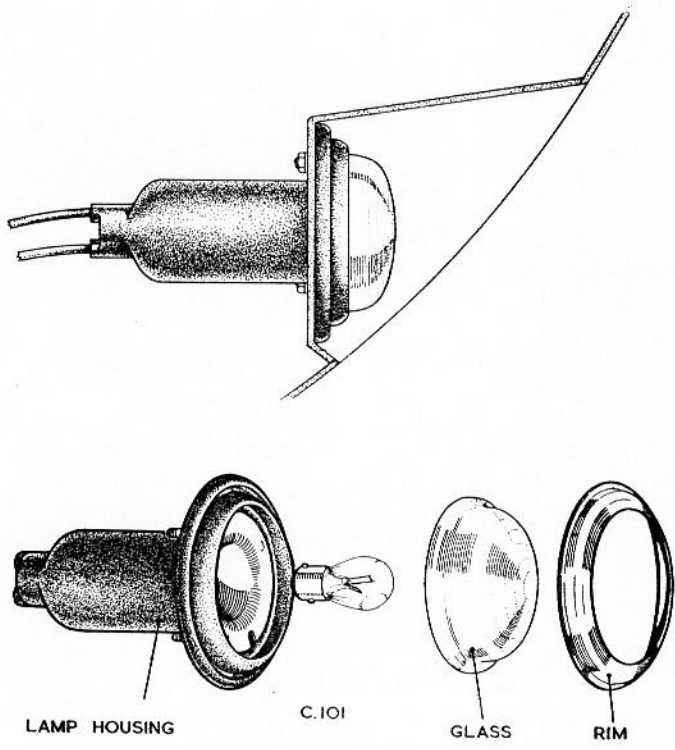

Fig.6 Side lamp details.
2. Remove the securing nut and washers from the retaining plate inside the front wing, see Fig.6 then withdraw the retaining plate.